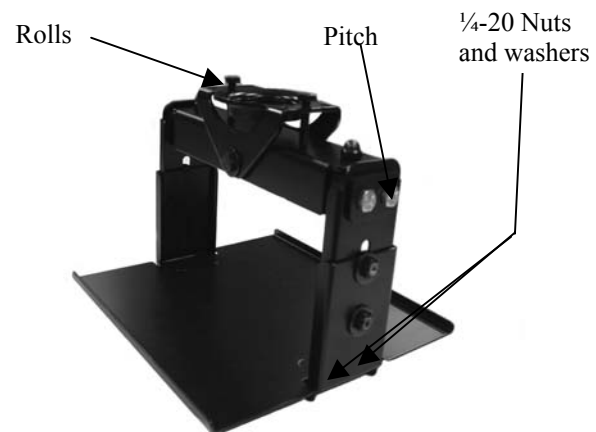

Figure 1
2. Measure projector width and height and adjust LCDA frame to appropriate size. Hand tighten only to prevent members from moving freely (see Figure 1).
Loosen the 1 ½” jam nut and back it off a couple of turns. Turn LCDA frame assembly clockwise to desired yaw and re-tighten jam nut. **CAUTION!** When turning LCDA assembly about the pipe in a counter clockwise direction, it may be completely unthreaded (see Figure 1).
Slightly loosen four ¼-20 bolts at the upper outsides of the assembly and it may be tilted forward or backward to a desired angle. Re-tighten bolts (see Figure 1).
Loosen either of the roll adjust bolts and tip assembly to desired angle. Re-tighten opposite bolt to lock position (see Figure 1).